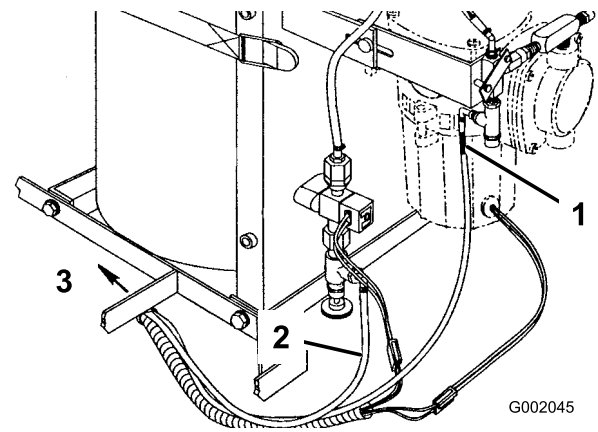

Figure 9
5. Connect the marked supply hose to the hose barb at the compressor and the other supply hose to the hose barb on the needle valve (Figure 9).
- Mark a 108 inch supply hose with a black marker at each end (Figure 9).
- Connect the marked supply hose to the hose barb at the compressor and the other supply hose to the hose barb on the needle valve (Figure 9).